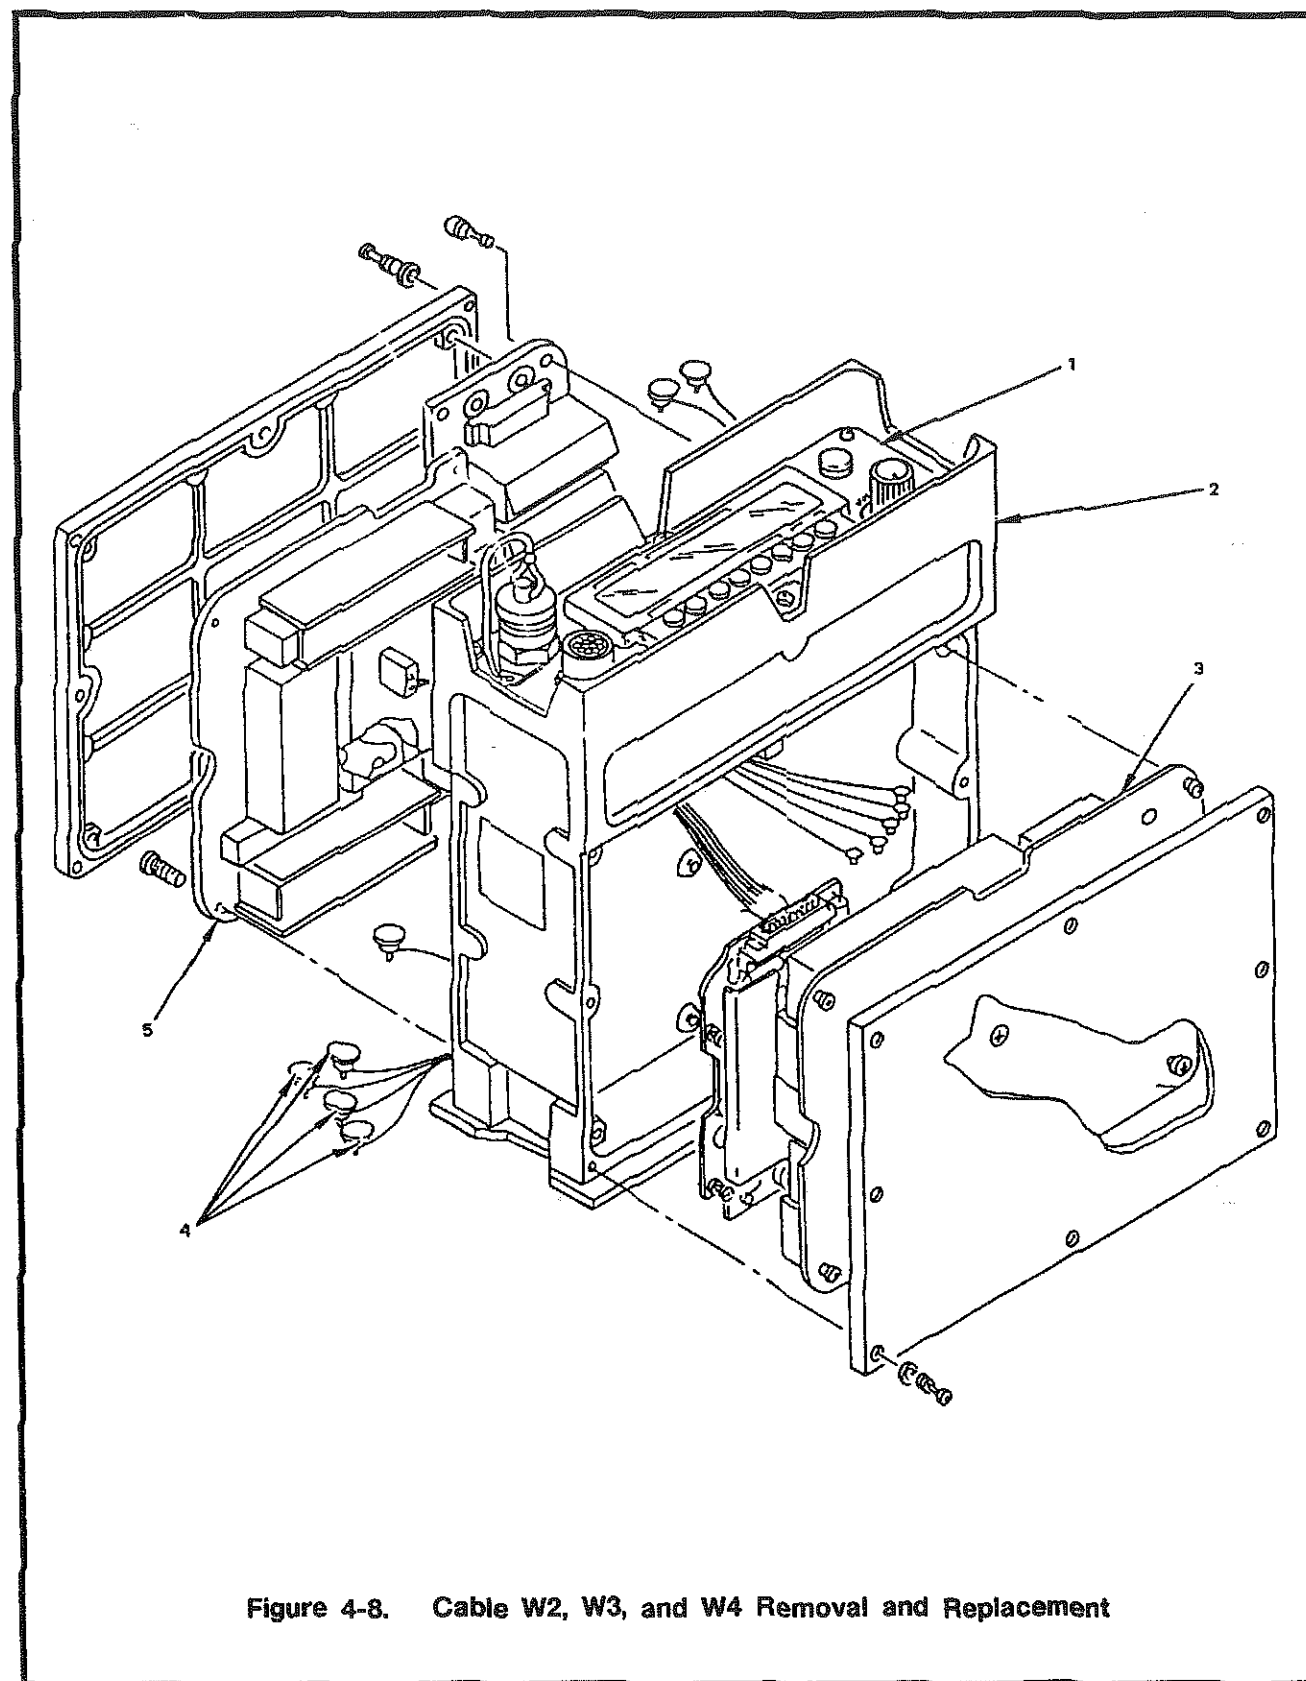

Figure 4-8. Cable W2, W3, and W4 Removal and Replacement
**CABLE W2 REMOVAL AND REPLACEMENT, fig 4-8**
**CABLE W3 REMOVAL AND REPLACEMENT, fig 4-8**
1. Place RT so EFP (1) is facing ceiling.
2. Insert cable W3 (4) between printed wiring board and middle divider of RT housing (2).
3. Replace synthesizer (3) CCA, by performing procedures per Synthesizer A1A3 Replacement (page 4-12).
4. Replace modulator/demodulator (5) CCA, by performing procedures per Modulator/Demodulator A1A1 Replacement (page 4-9).
**CABLE W4 REMOVAL AND REPLACEMENT, fig 4-8**